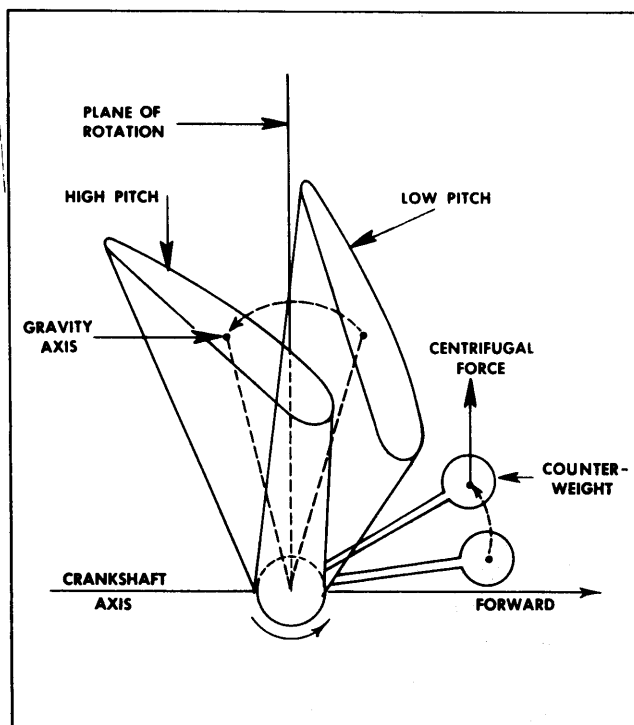

Figure 7. Tip View of Blade and Counterweight Assembly
(2) COUNTERWEIGHT ARM. (See figure 7.)